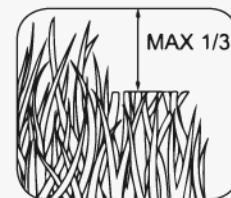

**Figure 8**
1. Using the primer bulb is important for engine starting. For cold starting, press the primer bulb lightly one to three times in succession. For hot starting, no need to press the primer bulb. (See **Figure 8**)